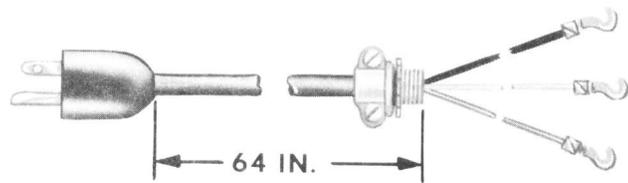

Fig. 9 — KS-16797, List 15 Cable Assembly
10. KS-16797, LIST 15 CABLE ASSEMBLY (FIG. 9)